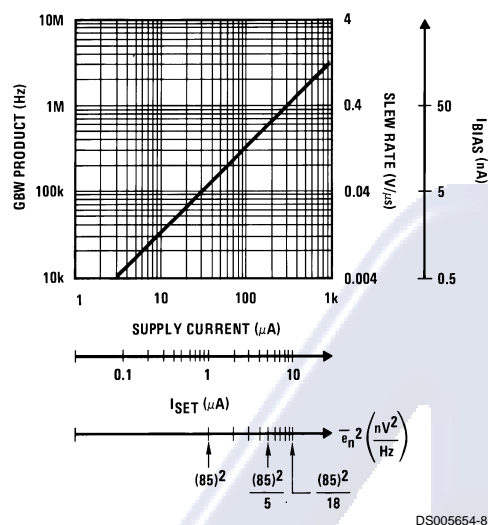

FIGURE 3. LM146 Typical Characteristics
**Isolation Between Amplifiers:** The LM146 die is isothermally laid out such that crosstalk between *all* 4 amplifiers is in excess of -105 dB (DC). Optimum isolation (better than -110 dB) occurs between amplifiers A and D, B and C; that is, if amplifier A dissipates power on its output stage, amplifier D is the one which will be affected the least, and vice versa. Same argument holds for amplifiers B and C.
**LM146 Typical Performance Summary:** The LM146 typical behaviour is shown in *Figure 3*. The device is fully predictable. As the set current,  $I_{SET}$ , increases, the speed, the bias current, and the supply current increase while the noise